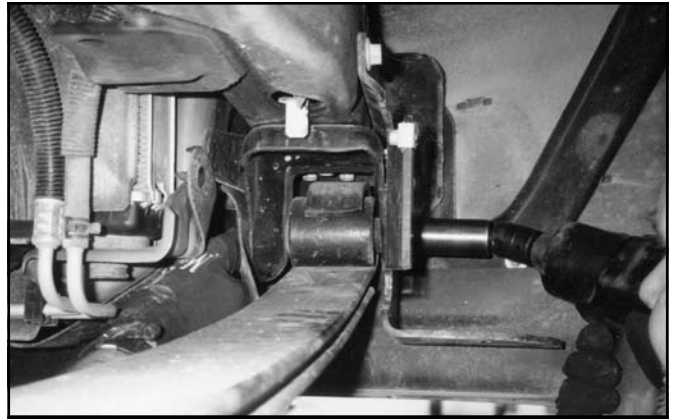

Fig. 3
10. Remove the leaf spring eye bolts. You will need to remove the AC condenser mount brackets that are directly next to the front spring eye bolts in order to gain clearance. **Note: The OE nuts were attached using loctite.** To aid in removal, heat the nuts. Keep a fire extinguisher handy whenever using an open flame. Lower the axle and remove the original spring. **CAUTION: Do not over extend the brake lines.** (Fig. 3)